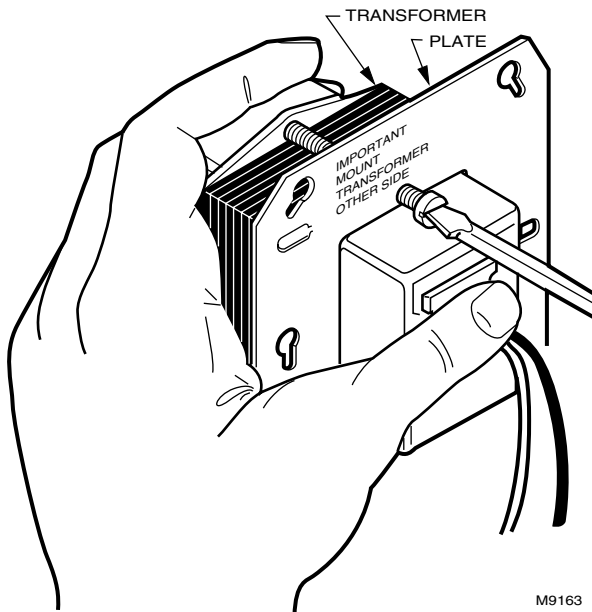

Fig. 15. Secure plate on transformer with mounting screw and tab.
- ❷ Hold the transformer with the clamp on the end bell facing you.
- ❸ With the keyhole slots up, fit the mounting plate over the primary leadwires and the end bell. Insert the small tab at the bottom of the plate into the slot in the transformer mounting foot.
- ❹ Insert the mounting screw (provided) through the holes as shown in Fig. 15. Secure the plate to the transformer, but do not overtighten the screw.